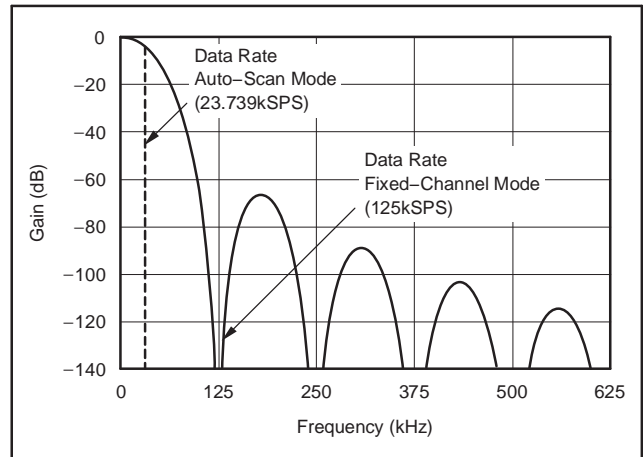
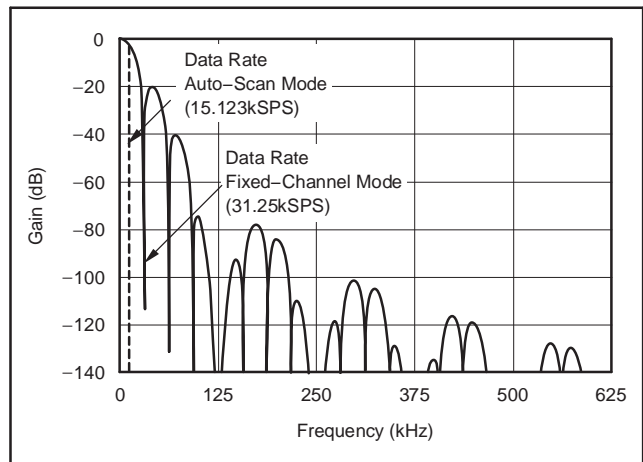

Figure 42. Frequency Response, DRATE[1:0] = 11
Figure 43. Frequency Response, DRATE[1:0] = 10
The low-pass filter has notches (or zeros) at the data output rate and multiples thereof. The sinc^5 part of the filter produces wide notches at $f_{CLK}/128$ and multiples thereof. At these frequencies, the filter has zero gain. Figure 42 shows the response with no post averaging. Note that in Auto-Scan mode, the data rate is reduced while retaining the same frequency response as in Fixed-Channel mode.
Figure 43 shows the response with averaging set to 4 (DRATE[1:0] = 10). 4-reading, post-averaging produces three equally-spaced notches between each main notch of the sinc^5 filter. The frequency response of DRATE[1:0] = 01 and 00 follows a similar pattern, but with 15 and 63 equally-spaced notches between the main sinc^5 notches, respectively.
(2) Num_Ave is the number of averages performed by the digital filter second stage.
(3) In Auto-Scan mode, the data rate listed is for a single channel; the effective data rate for multiple channels (on a per-channel basis) is the value shown in Figure 42 and Figure 43 divided by the number of active channels in a scan loop.
Referring to Figure 42 and Figure 43, frequencies present on the analog input above the Nyquist rate (sample rate/2) are first attenuated by the digital filter and then will alias into the passband.